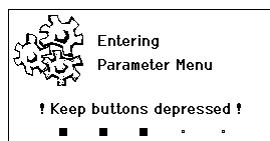

Fig. 8
1. Press and hold down keys **13** and **1** or **13** and **2** or **6** and **3** or **6** and **4** simultaneously. While the device is changing over to the parameter menu, the display shows the following message text (see also Fig. 8): "Changing over to parameter menu" "Hold down keys".